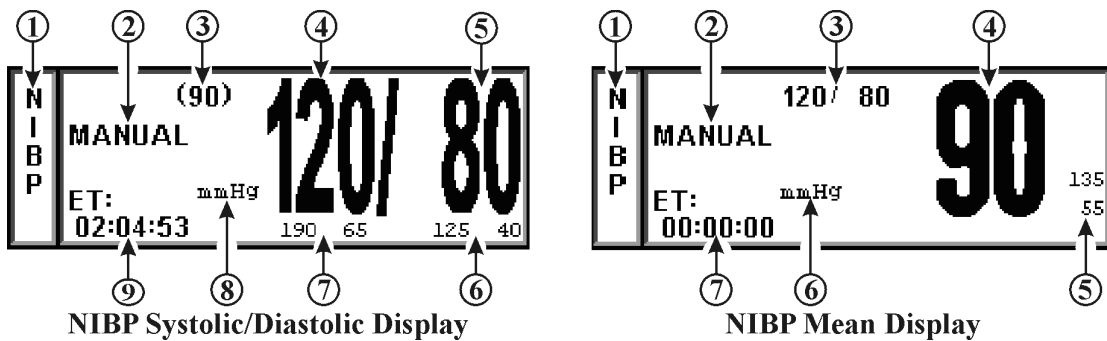

Figure 4-6. The NIBP Display
4.2.3 Associated Displays. When NIBP is enabled, it is displayed in a box at the lower left of the normal screen. The box is a specialized display panel that includes the information concerning the NIBP status in one of two user selectable formats. The two available formats are Systolic/Diastolic and Mean Only (See Figure 4-6); the user selects the format using the **FORMAT** option in the **NIBP Menu** (See Paragraph 4.2.5). The two available displays are described below: